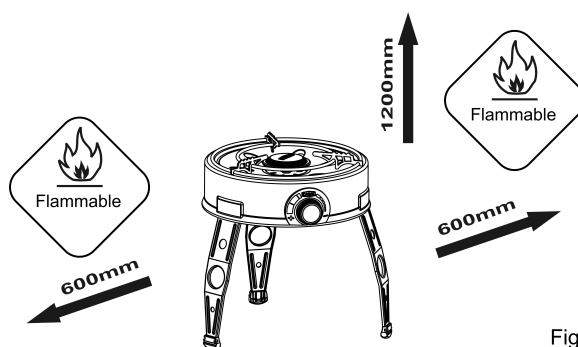

Fig. 2
- Ensure the appliance is used away from flammable materials. Minimum safe distances are; Above the appliance 1.2m. At the rear and sides 600mm (See Fig. 2).